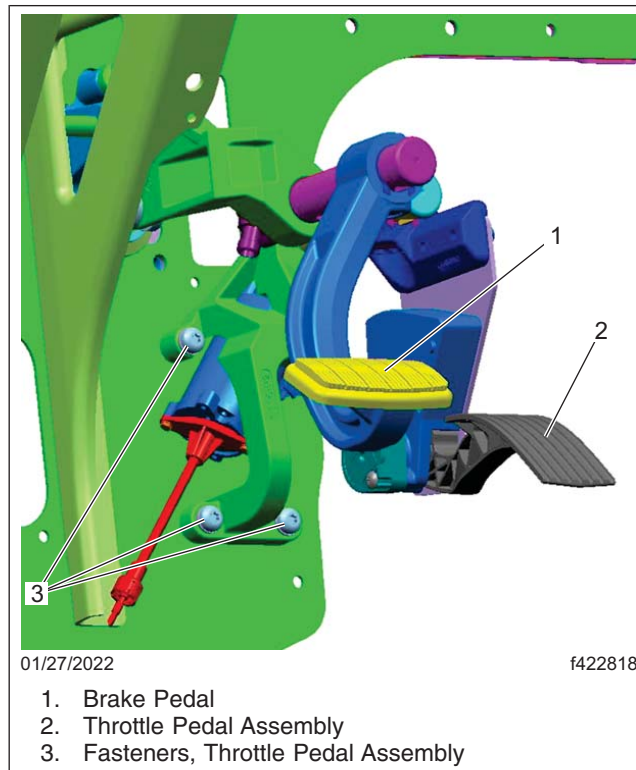

Fig. 9, Pedal Location
2. Disconnect the two electrical connectors and one cable from the throttle pedal, then remove the throttle pedal assembly by removing the three mounting bolts. See Fig. 9.
7. Position the throttle pedal assembly on the firewall, then install the three throttle pedal mounting bolts. Tighten the bolts 13 lbf·ft (18 N·m). See Fig. 9.